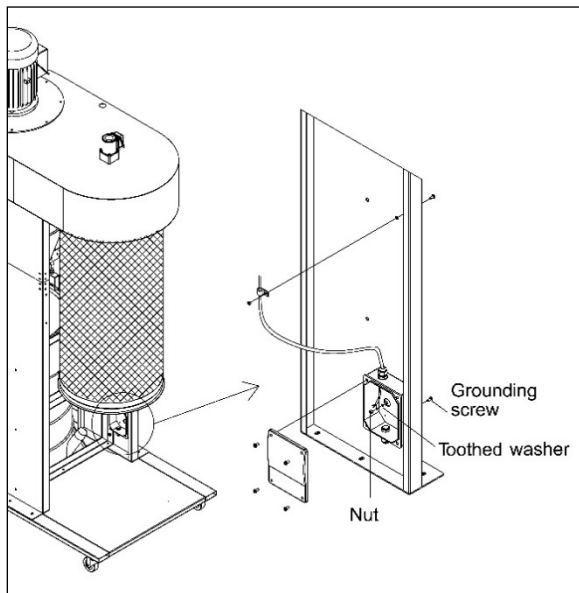

Figure 5-7
12. Before installing the canister, remove the junction box cover. Make sure the green grounding wire is secured to the screw, and the cable going up to the switch is secured against the panel by the cable clip. See Figure 5-7